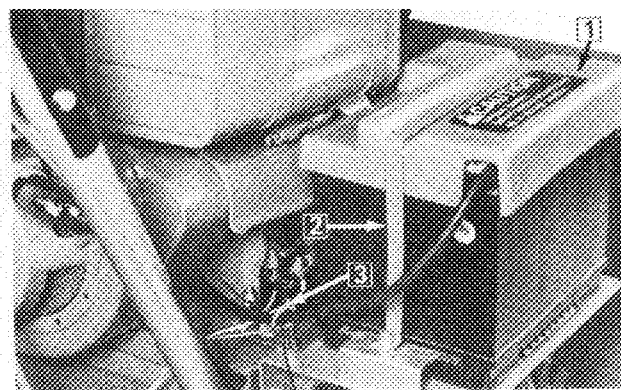

Figure 14
28. Install cover on top of battery. Next, slide battery completely onto mounting plate. Secure battery in place with capscrews, battery hold down clamps, and nuts (Fig. 14).
29. Install battery strap onto battery cover and slide mounting ends of strap onto ends of capscrews (Fig. 14). Secure all parts in place with two nuts (Fig. 14).
30. Secure charging plug wires to negative battery cable with tie wrap (Fig. 14).